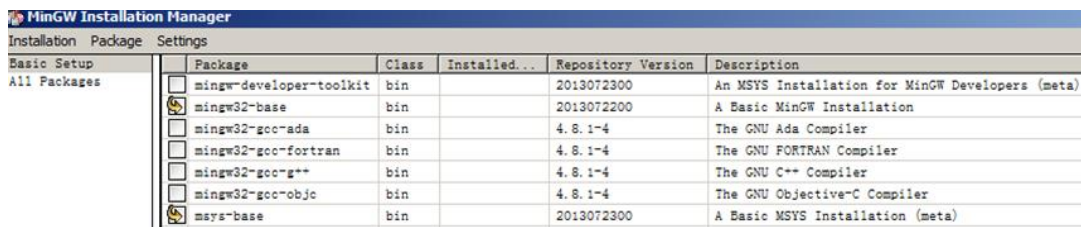

Figure-14 MinGW Installer
3. Select the mingw32-base and the msys-base under the Basic Setup as shown in Figure-14 MinGW Installer.